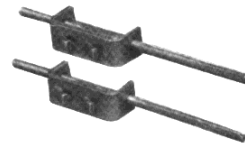

Figure 9: Mounting brackets
- two mounting brackets (figure 9)